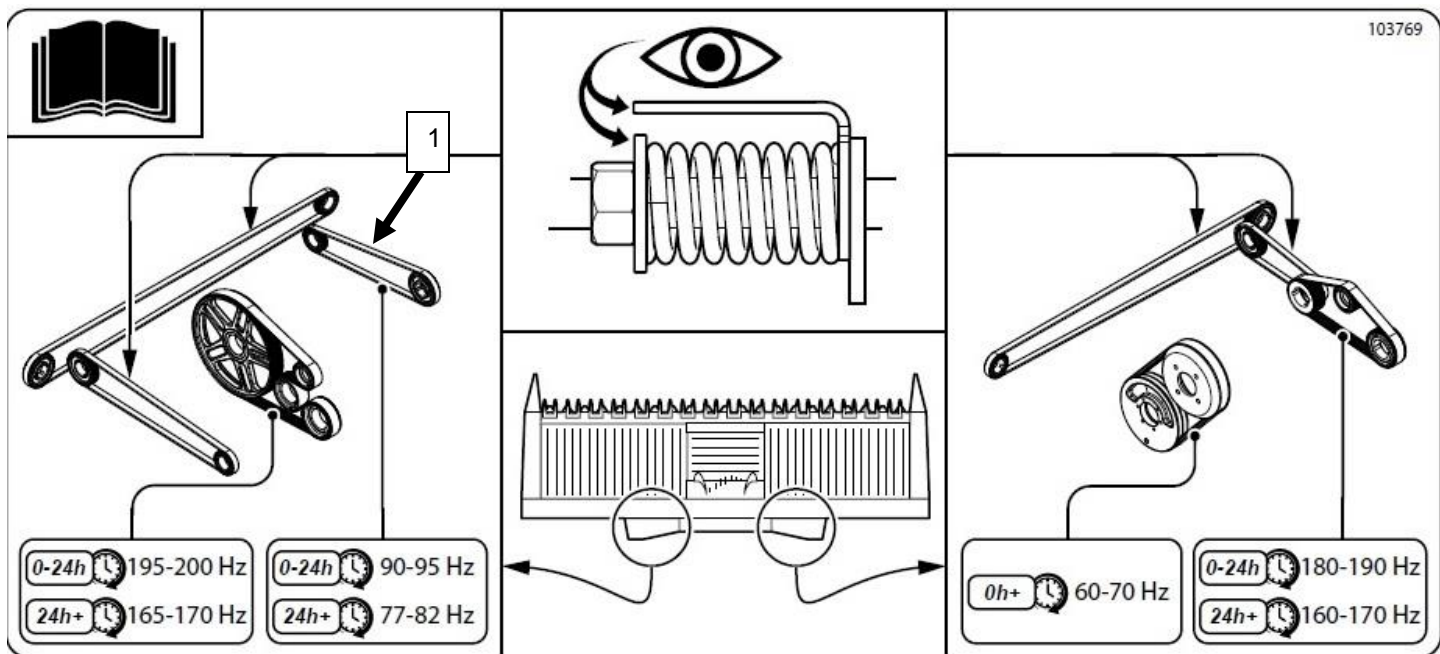

Figure 1
1. We have seen some failures of the drive belts on the AirFlex headers this past season due to improper tension. To help make certain that the belts are tensioned properly a new decal will be added to all headers. This decal shows the proper tension on the belts. (See Figure 1).
- To resolve this issue in 2019 the drive belt for the feeder deck (item 1 Figure 1) no longer has a spring on the tensions system.